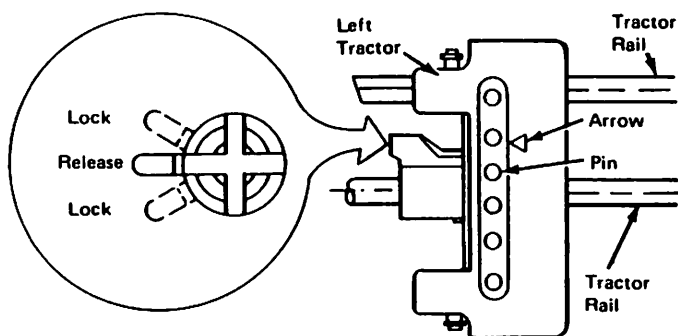

Figure 21 Left tractor
3. Release the left tractor assembly by turning the tractor lock to the center position (Figure 21).